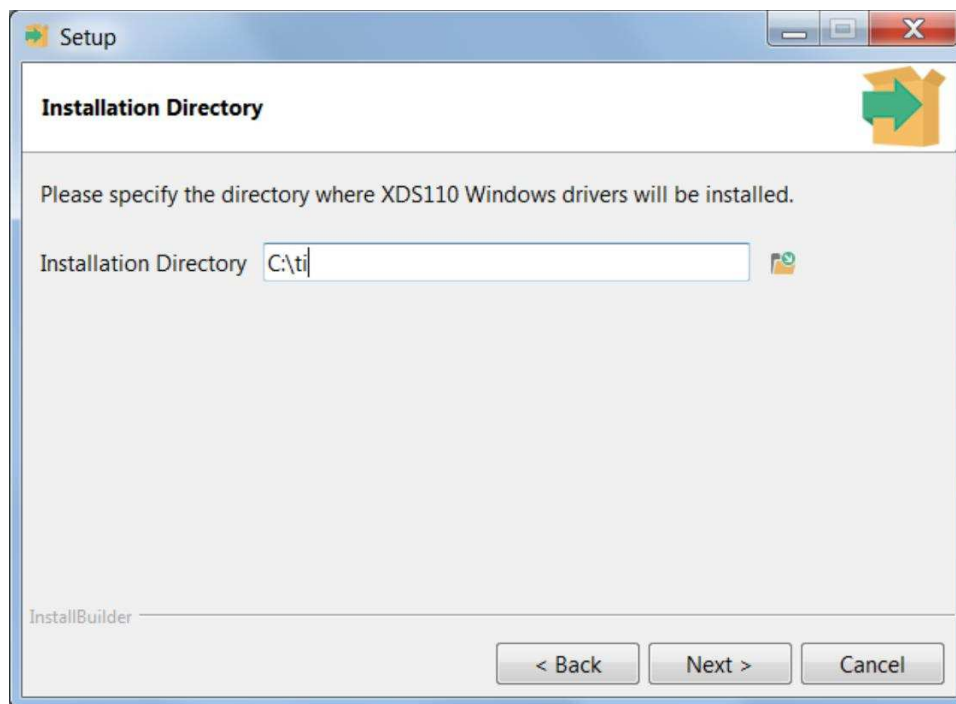

Figure 1-9. Select Install Path
3. Specify the installation path in the Installation Directory field, as shown in Figure 1-9 (default is C:\ti), and proceed with the installation.